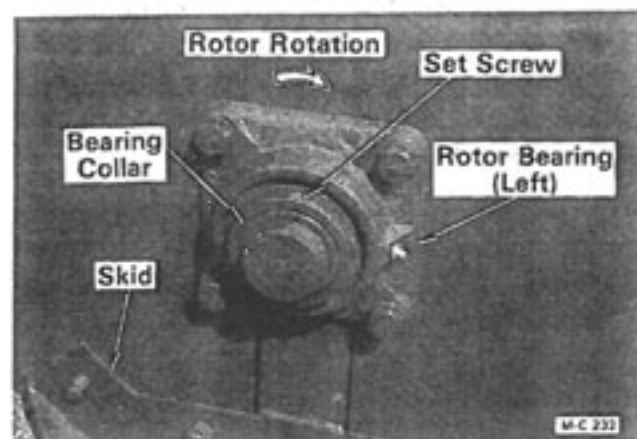

Figure 27
- A. Remove the left skid, see Figure 27.
- A. Remove the right and left skids, see Figure 27.